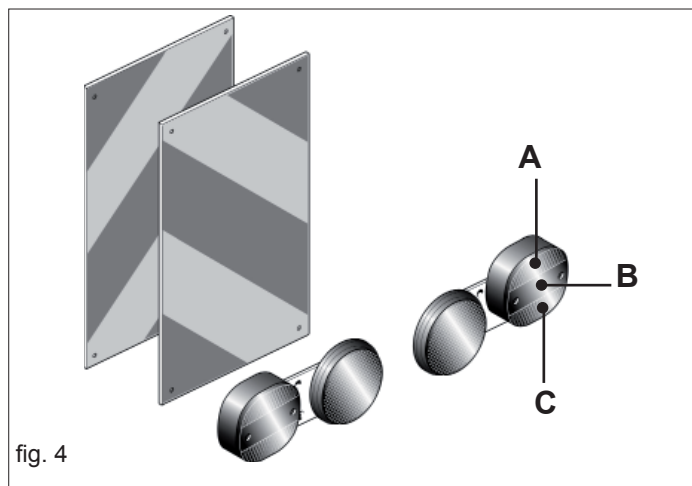

fig. 4
- 8) When the dimensions of carried or partially-carried equipment conceal the tractor's signalling and lighting devices, these must also be installed on the equipment itself, in conformity with regulations of the highway code of the country involved. When in operation make sure that the lighting system is in perfect working order. It is also important to remember that the correct signalling sequence of the headlights includes (Fig. 4):